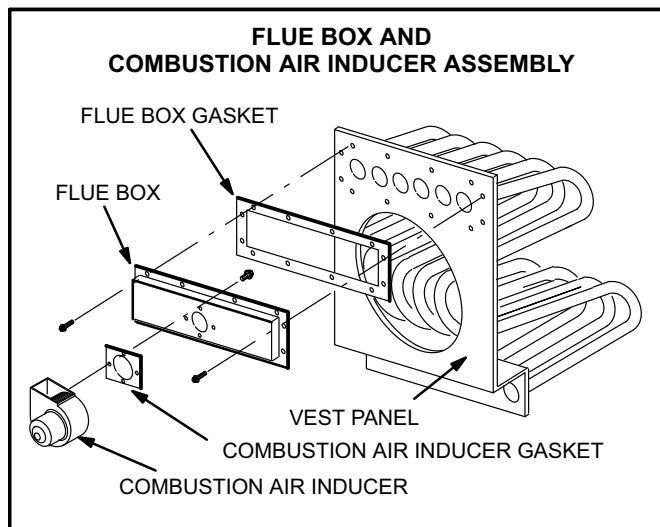

FIGURE 1
- 3 - Before making an electrical or gas connections, remove the securing screws on the flue box/combustion air inducer. See figure 1.